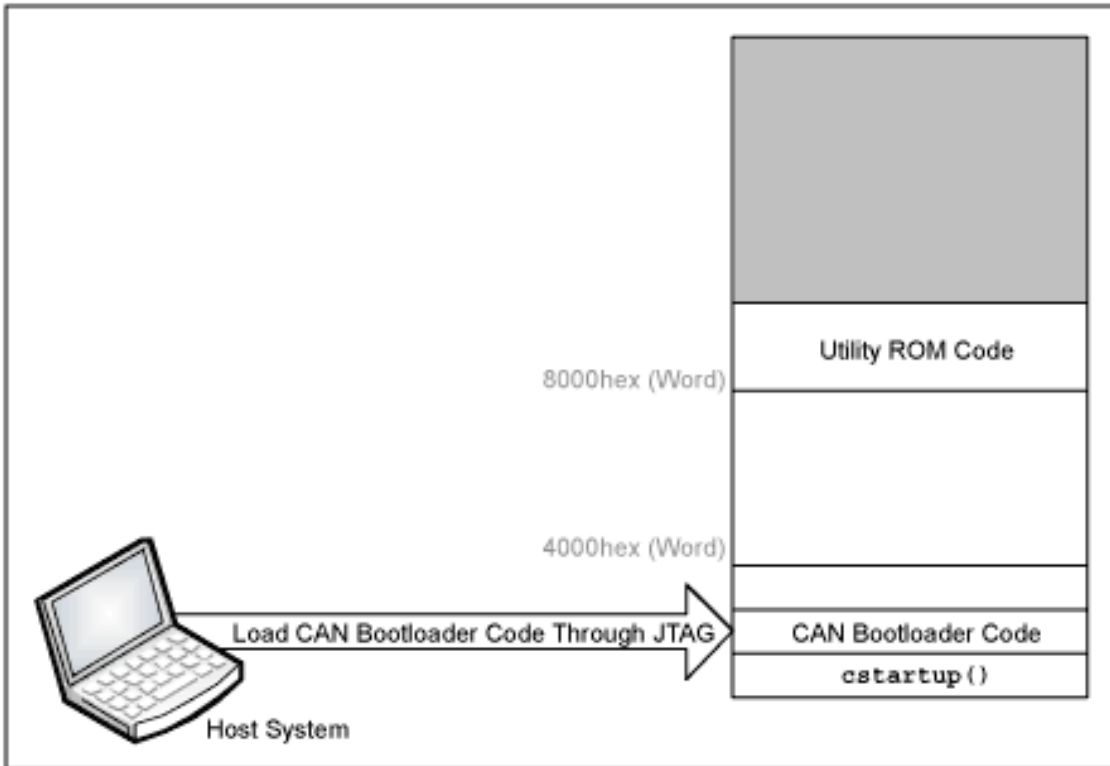

Figure 1. The CAN bootloader is loaded through the JTAG port.
Step 1: Load the CAN bootloader into the lower part of the program memory (**Figure 1**).